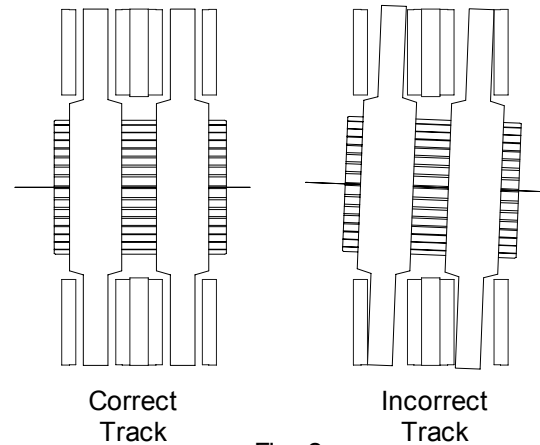

Fig. 2
Proper alignment is necessary to assure that the discs (58) will track properly. Improper alignment will result in excessive wear to the friction discs (8), discs (58) and gear (28). See Figure 2.